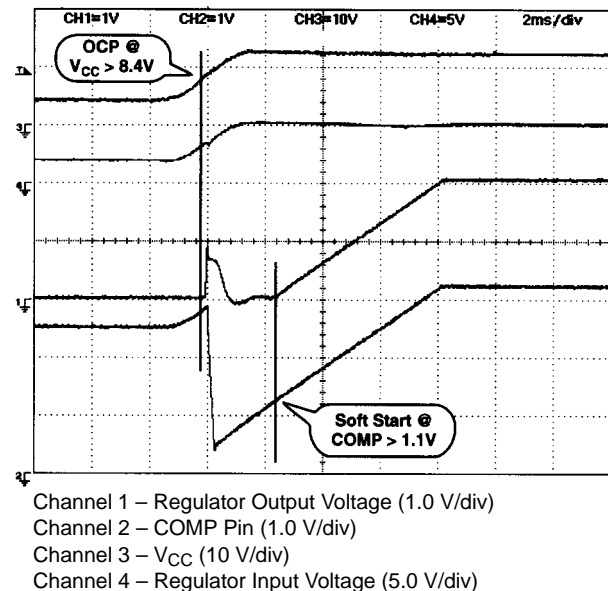

Figure 13. Startup with COMP Pre-Charge to 2.0 V (2.0 ms/div)
If the voltage across the Current Sense resistor generates a voltage difference between the  $V_{FB}$  and  $V_{OUT}$  pins that exceeds the OVC Comparator Offset Voltage (86 mV typical), the Fault latch is set. This causes the COMP pin to be quickly discharged, turning off GATE(H) and the upper NFET since the voltage on the COMP pin is now less than the 1.1 V PWM comparator offset. The Fault latch is reset when the voltage on the COMP decreases below the discharge threshold voltage (0.25 V typical). The COMP capacitor will again begin to charge, and when it exceeds the 1.1 V PWM comparator offset, the regulator output will Soft Start normally (see Figure 13).